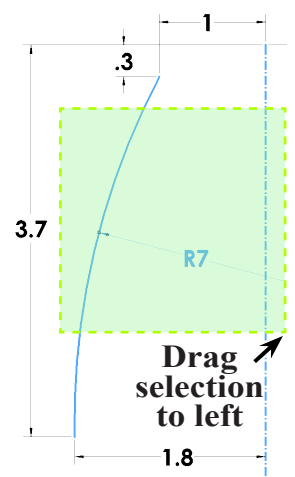

Fig. 6
Step 2. **Drag a “trend to left - more liberal” selection across arc and vertical centerline, Fig. 6.**